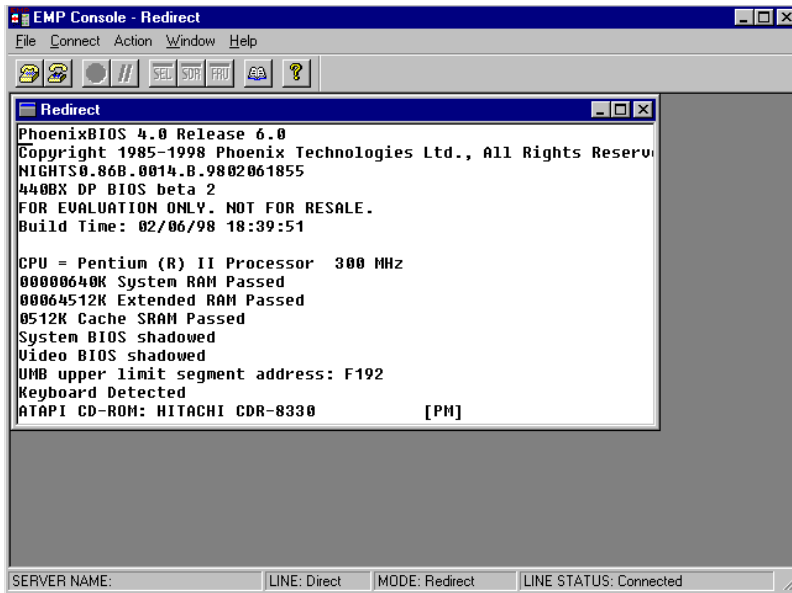

Figure 35: EMP Console in Redirect State
- **Redirect state**—the EMP console serves as a PC ANSI terminal window for BIOS console redirection (Figure 35). Commands typed in this terminal window are transmitted through BIOS to the server console, and text displayed on the server console is displayed in the EMP console terminal window. With the EMP in this state, you can remotely view boot messages, access BIOS setup, and run DOS text mode applications through the EMP console terminal window.
Figure 35 shows the EMP console window in redirect state with the terminal window. The text that appears on the server monitor is also displayed in the redirect window.